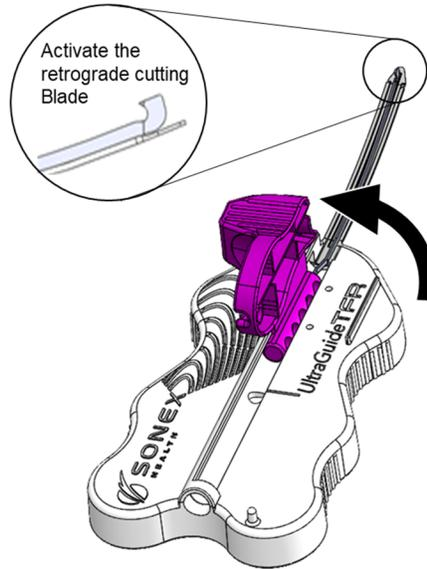

Figure 6: Incise in a distal to proximal direction
7. Use the Blade Handle to incise the A1 pulley and tendon sheath in a distal to proximal direction. During the incision, place Introducer Handle on the patient's palm to stabilize the device and engage the cutting Blade into the tendon sheath and A1 pulley (Figure 6).